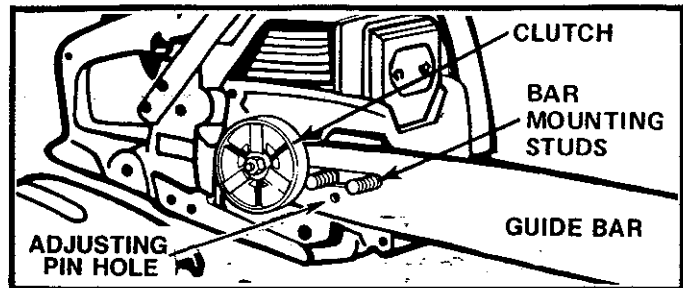
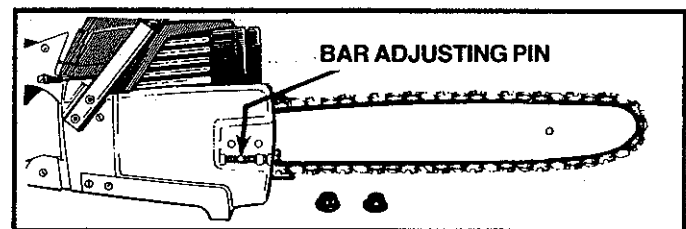

Figure 9
Figure 11
2. Mount the Guide Bar with the slotted end over the bar mounting studs. Figure 9 .
8. Pull the Guide Bar forward until the chain is snug in the guide bar groove. Figure 11.
10. Slide the Bar Clamp over the mounting studs and fit the bar adjusting pin (Figure 11) into the adjusting pin hole in the Guide Bar. Figure 9.